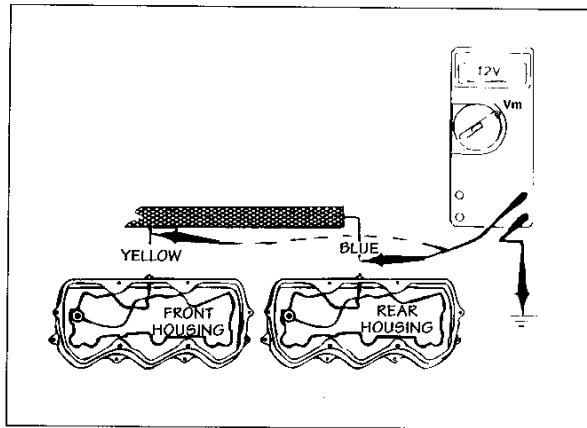

FIG. 1.1.16
**Correction:** If all of the above procedures do not locate the problem, disconnect the wire harness at the engine brake spacers. Set the selector switch in HI, accelerator in low idle, cruise control switch off and clutch switch activated, both blue and yellow wires should read 12 volts (Fig. 1.1.16). Depressing the clutch should cause the voltage at each wire to drop to 0 volts. If these readings do not occur, replace the control module.